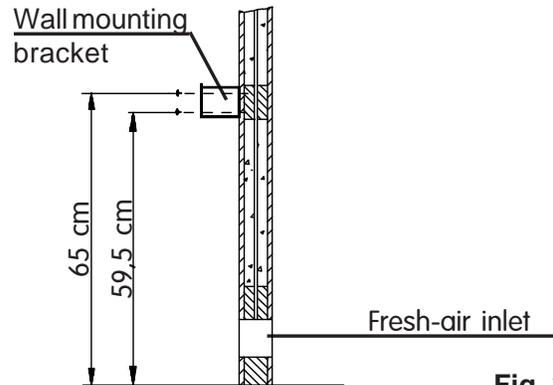

Fig. 3
1. Fasten the wall mounting bracket to the cabin wall as shown in Figs. 3 + 4, centered above the fresh-air inlet, using the enclosed tension plate screws.